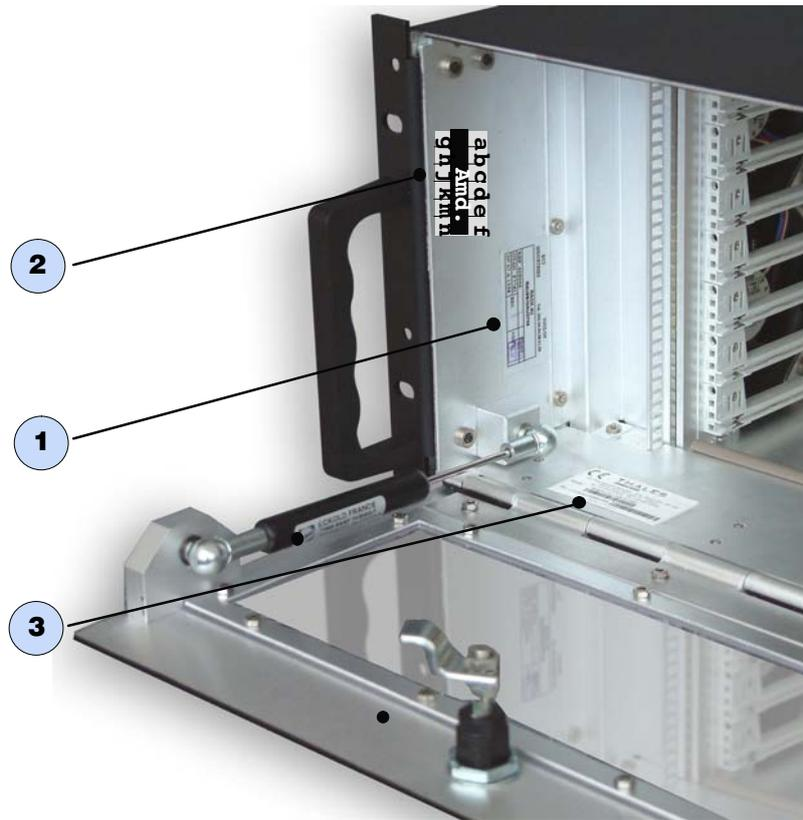

Figure 3: Identification
- ▶ Two of them are located inside the rack, near the EMC door (refer to Figure 3 above).
- ▶ The third one, is located inside the rack, near the the EMC door (refer to Figure 3 above).